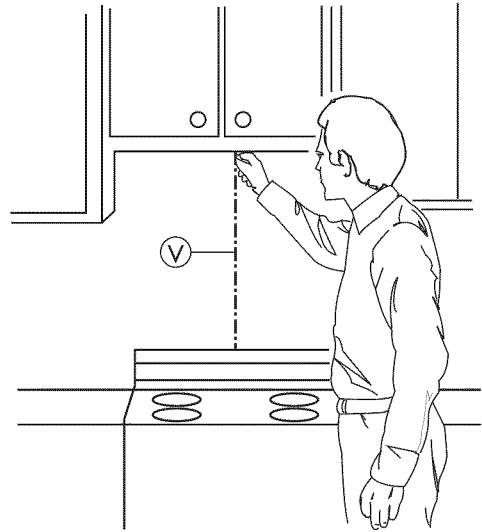

Figure 22
1. Using a plumb line and (metal) measuring tape, find and mark the vertical center line (V) on the back wall, as in Figure 22.